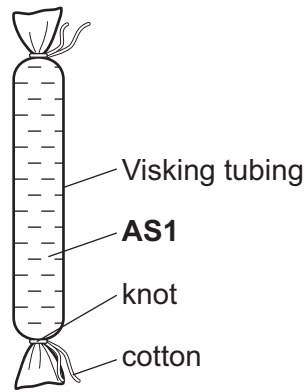

Fig. 1.1
- Pull the slip knot tight see Fig.1.1.